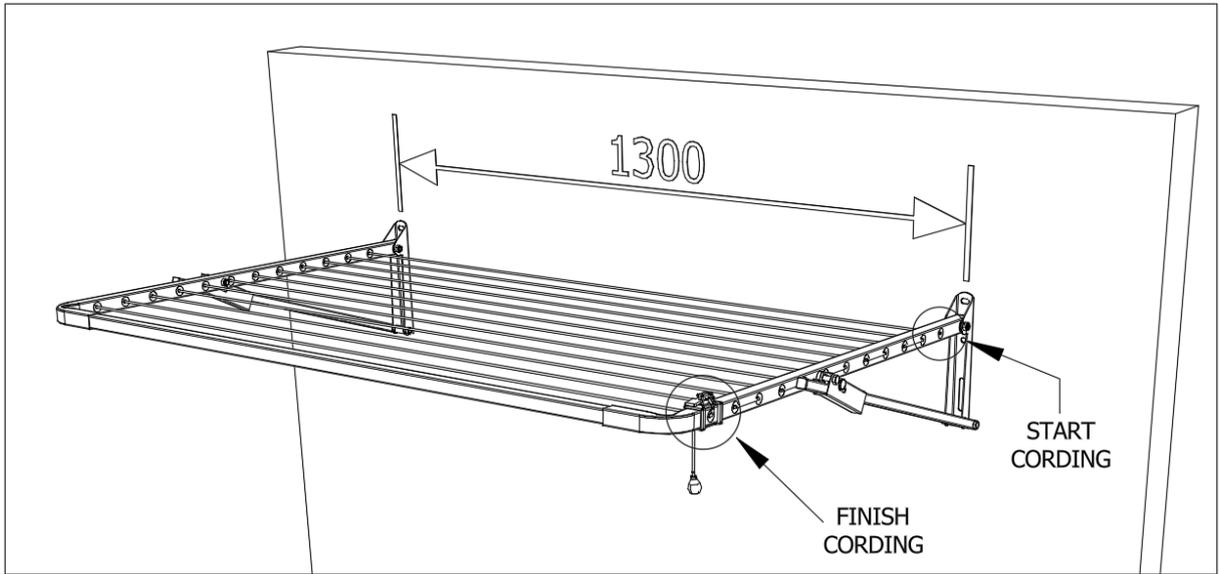

Fig 1. Unitline 16 fitted to wall / Cord start stop positions.
6. Start cording at the rear right-hand hole, tie a knot in the cord to stop it pulling through. (Fig 1)
7. Working across and toward the front of the clothesline finish at the Line Tension Lock (L.T.L.) front right. (Fig 1)
7. Start cording at the rear right-hand hole, tie a knot in the cord to stop it pulling through. (Fig 1)